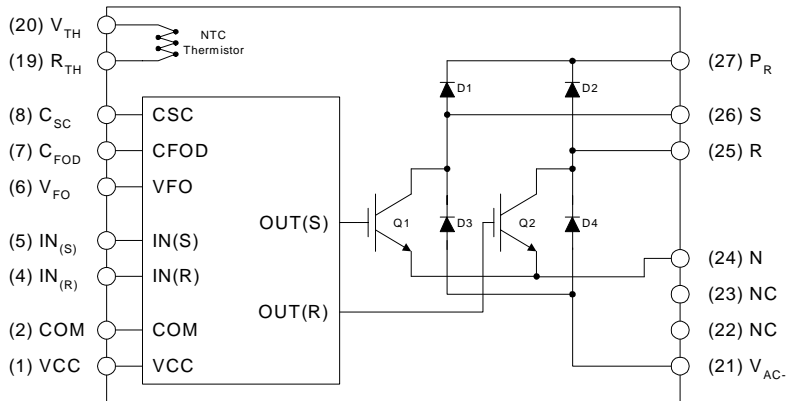

**Fig. 2.**
2. For the measurement point of case temperature( $T_C$ ), please refer to Fig. 2.